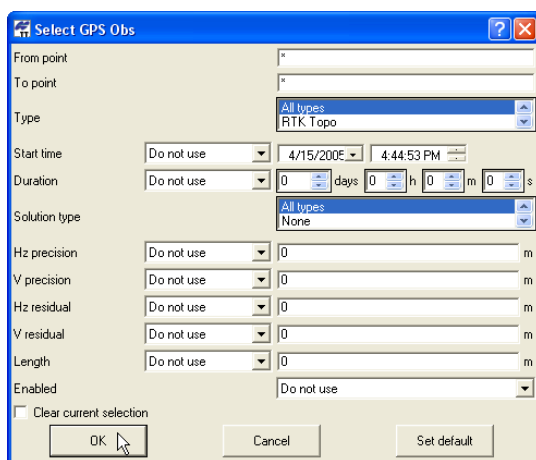

Figure 4-66. Select GPS Observations
On the **Select GPS Obs** dialog box, enter the following information and click **OK** (Figure 4-66 on page 4-68).
- Click **Set default** to apply the defaults shown in Figure 4-66 on page 4-68.